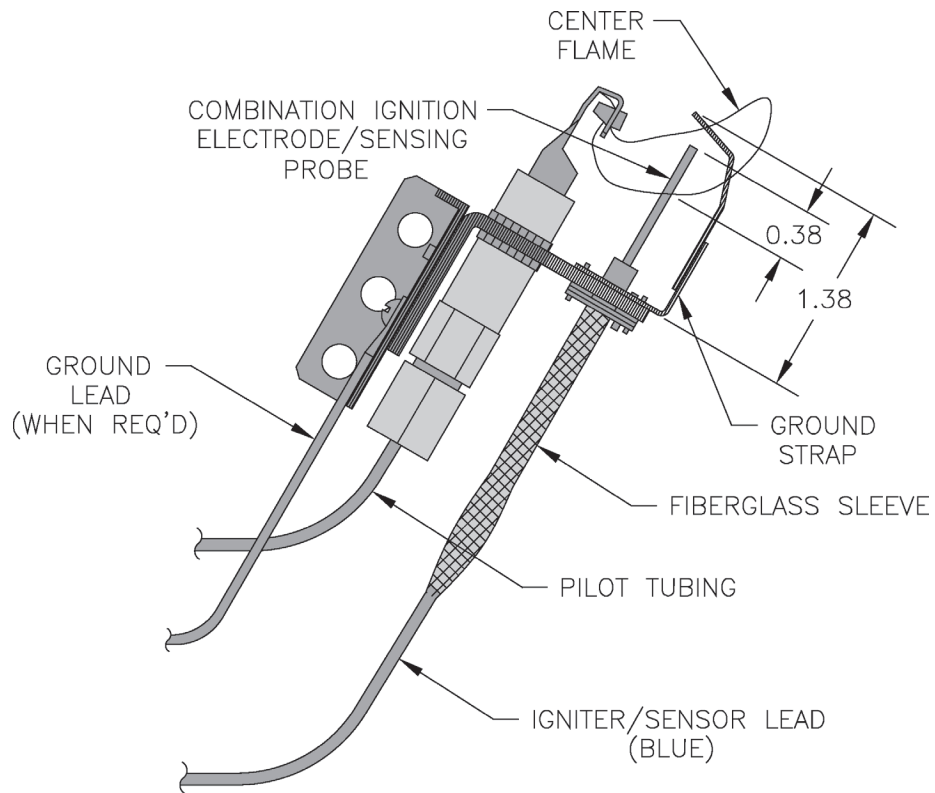

Figure 4: Pilot Burner
- c. a pilot burner to provide the ignition source for the main burners. See Figure 4.
4. Check pilot flame. See Figure 4. The pilot produces three (3) flames. The center flame should be steady, medium hard blue enveloping $\frac{3}{8}$ to $\frac{1}{2}$ inch of sensing probe. If flame is yellow and lazy, follow instructions TO TURN OFF GAS TO APPLIANCE (see Figure 2), and contact qualified service agency.